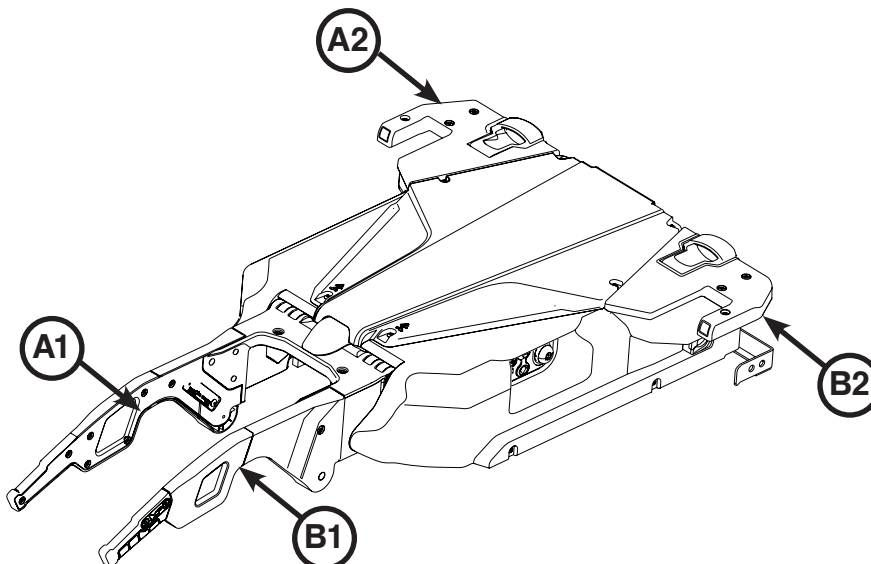

Figure 20: Trolley Assembly
- Carefully lift the trolley assembly by its arm and wing. Do not lift the trolley by the red manual cot release handles. Lift only where indicated. Installer 1, position hands at A1 and A2. Installer 2, position hands at B1 and B2 as shown in Figure 20.